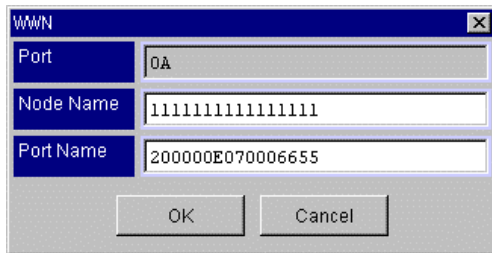

Figure 4.12 WWN Dialog Box
6. In the resulting WWN dialog box, enter the **Node Name** and the **Port Name** of the host's WWN (see Figure 4.12). Click the **OK** button. **Node Name** and **Port Name** are 16 hexadecimal digits.